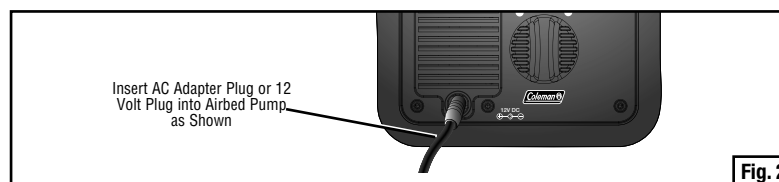

Fig. 2
- Insert small, round AC adapter plug into airbed pump. (see Fig. 2)
- Insert small, round, 12V plug into airbed pump. (see Fig. 2)